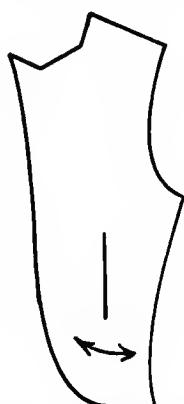

Fig. 152. Shaping the hip.
- C. Press semicircularly across the end of the dart (Fig. 152).